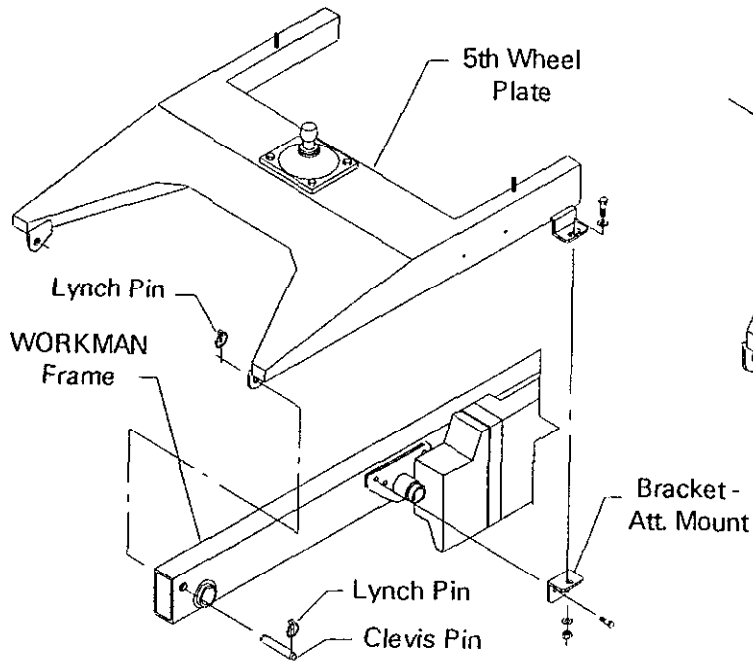

Figure 4
### INSTALL 5th WHEEL HITCH PLATE (Fig. 4, 5, 6 & 7)
2. Attach both Bracket Attachment Mounts (92-2667) to both sides of the Workman, using the rear two bolts of the main engine support tube. Do not tighten these bolts at this time. (See Fig. 4)
3. Set the 5th wheel plate on top of the Workman frame channels. (See Fig. 4)
4. Attach 5th wheel hitch plate to rear of frame using both clevis pins (92-1233) and secure with lynch pins (92-1298). (See Fig. 4)
5. Connect front of 5th wheel hitch plate to bracket attachment mounts using (2) 1/2" x 1-1/4" bolts, (4) flat washers and (2) lock nuts. Tighten all six bolts (see Step 2). (See Fig. 4)